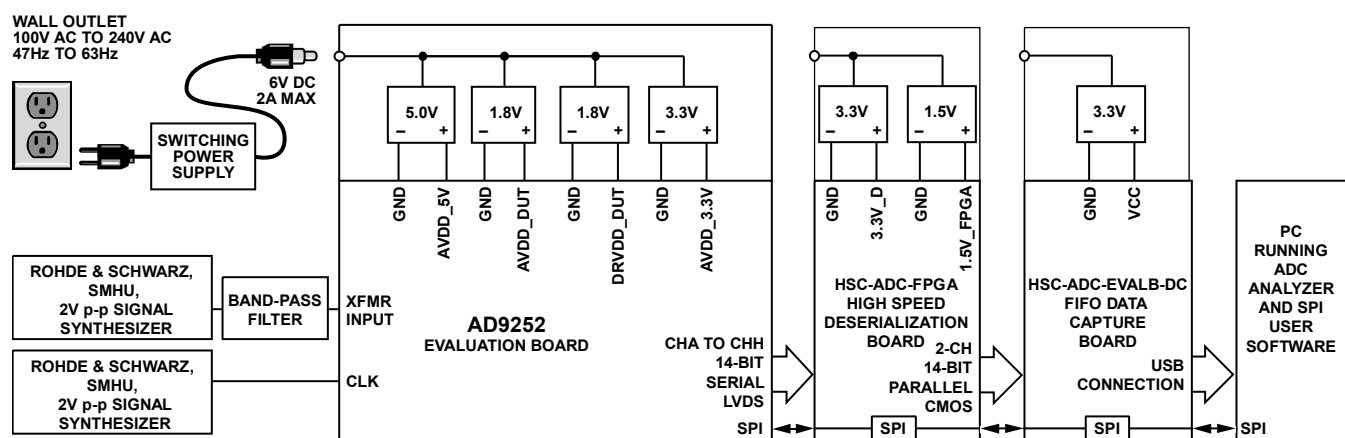
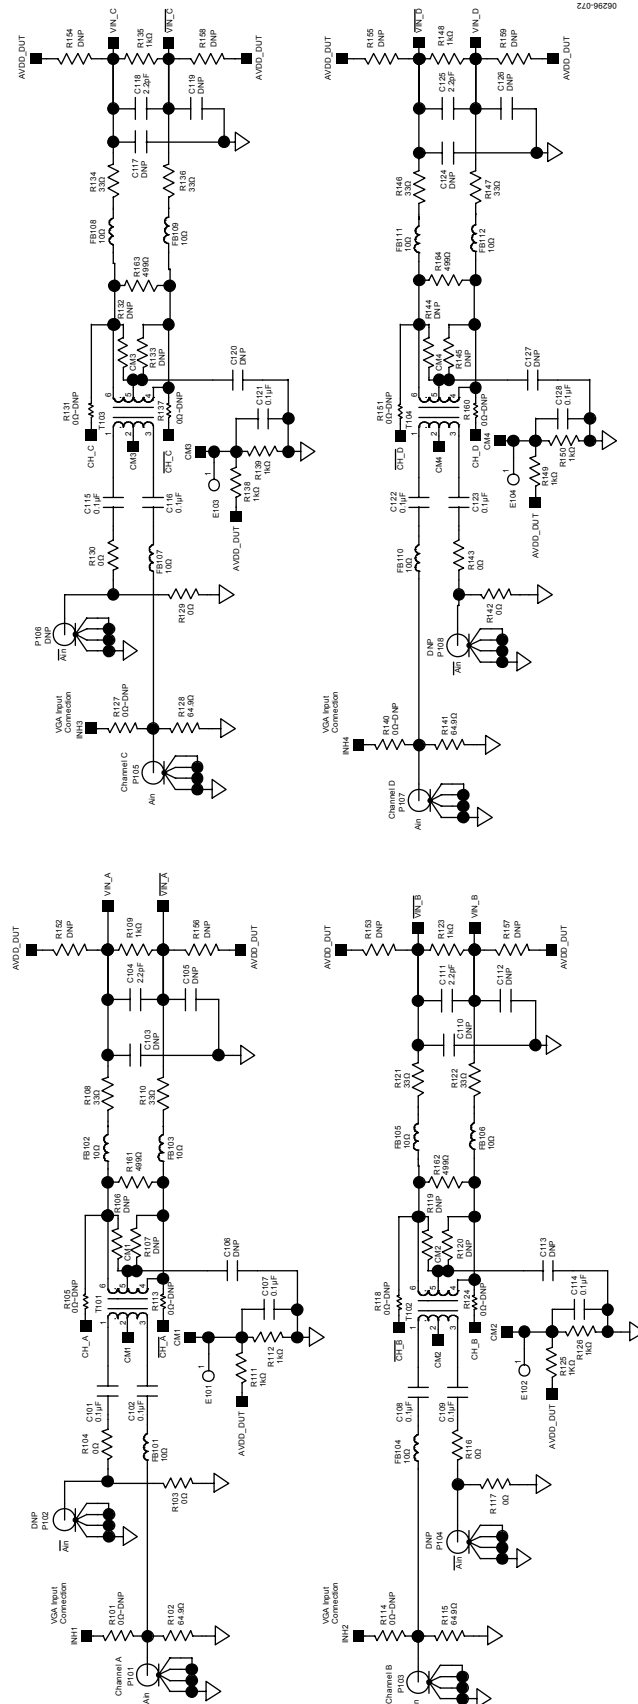
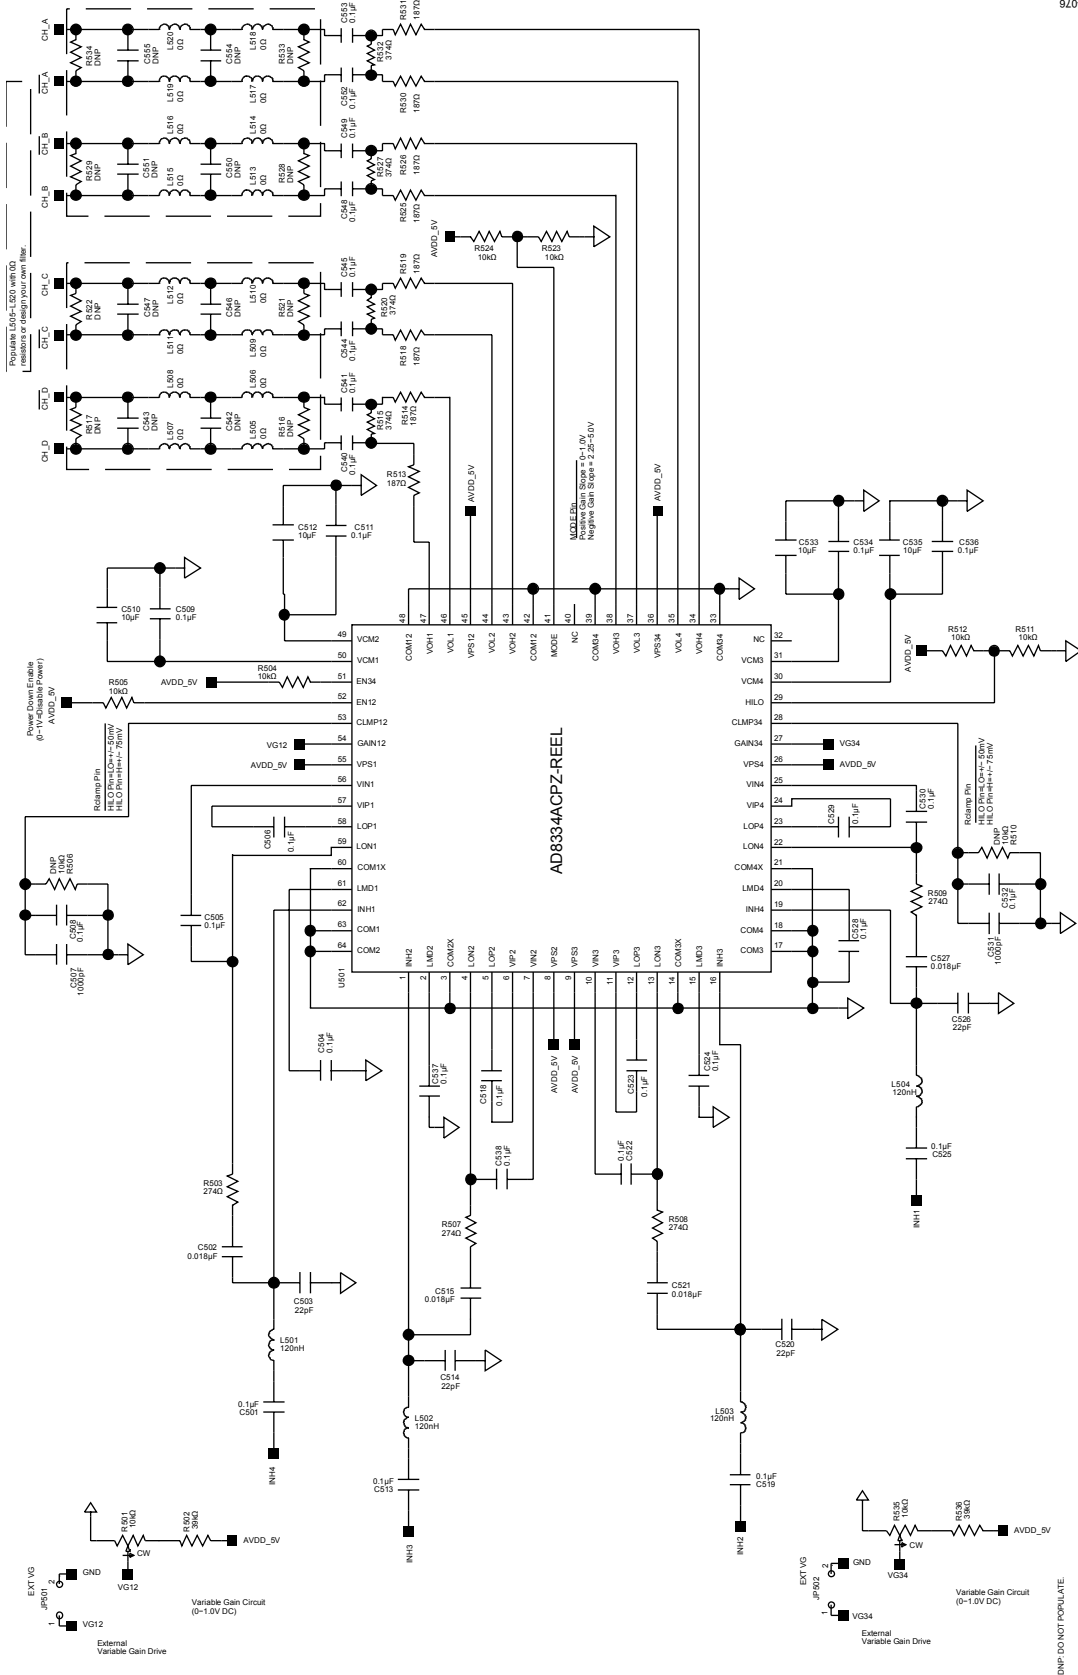

Figure 60. Evaluation Board Connection
Figure 62. Evaluation Board Schematic, DUT Analog Inputs
Figure 66. Evaluation Board Schematic, Optional DUT Analog Input Drive
The AD9252 evaluation board provides all of the support circuitry required to operate the ADC in its various modes and configurations. The converter can be driven differentially through a transformer (default) or through the AD8334 driver. The ADC can also be driven in a single-ended fashion. Separate power pins are provided to isolate the DUT from the AD8334 drive circuitry. Each input configuration can be selected by proper connection of various jumpers (see Figure 62 to Figure 66). Figure 60 shows the typical bench characterization setup used to evaluate the ac performance of the AD9252. It is critical that the signal sources used for the analog input and clock have very low phase noise ( $<1$  ps rms jitter) to realize the optimum performance of the converter. Proper filtering of the analog input signal to remove harmonics and lower the integrated or broadband noise at the input is also necessary to achieve the specified noise performance.
See Figure 62 to Figure 72 for the complete schematics and layout diagrams that demonstrate the routing and grounding techniques that should be applied at the system level.
- **D+, D-:** If an alternative data capture method to the setup described in Figure 62 is used, optional receiver terminations, R318, R320 to R328, can be installed next to the high speed backplane connector.